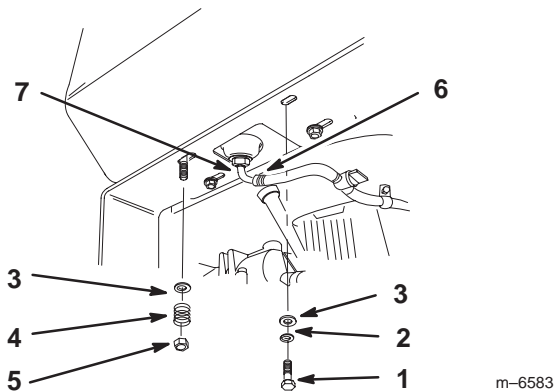

Figure 7
1. Align the fuel tank with the top of the rear frame (Fig. 7).
- 4. Secure the right side of the fuel tank to the rear frame (Fig. 7) with 2 bolts (5/16 x 7/8 inch), lock washers (5/16 inch) and washers (5/16 inch) (Fig. 7).
- 5. Secure the left side of the fuel tank to the rear frame (Fig. 7) with washers (5/16 inch), springs and locknuts (5/16 inch) (Fig. 7).